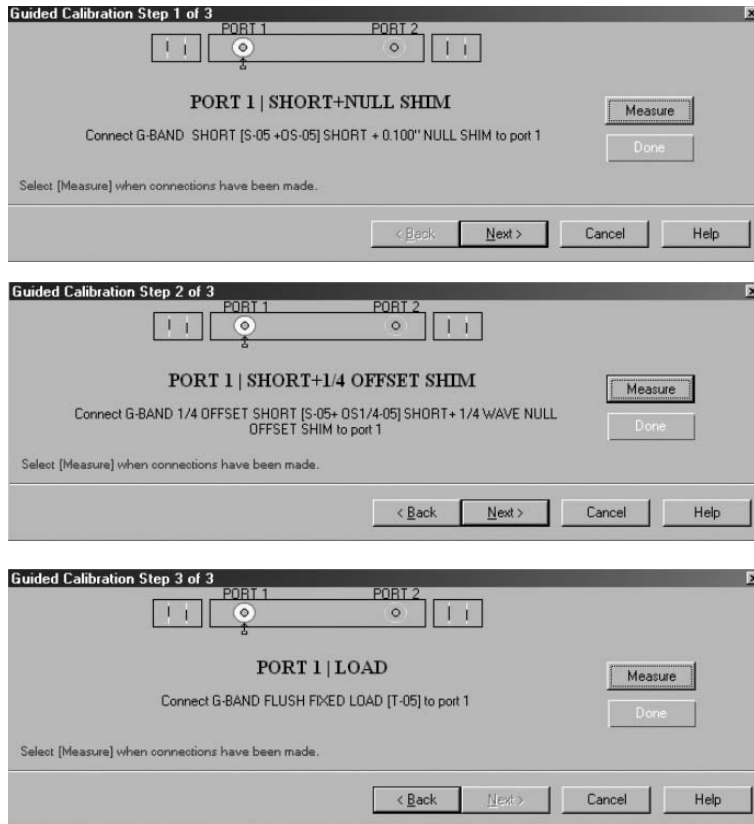

Figure 41. Steps of the 1-port calibration.
6. The calibration has now begun. As shown on the upper-left corner of each screenshot (Figure 41), the 1-port calibration includes three steps. The example shown here is based on using a OML cal kit.